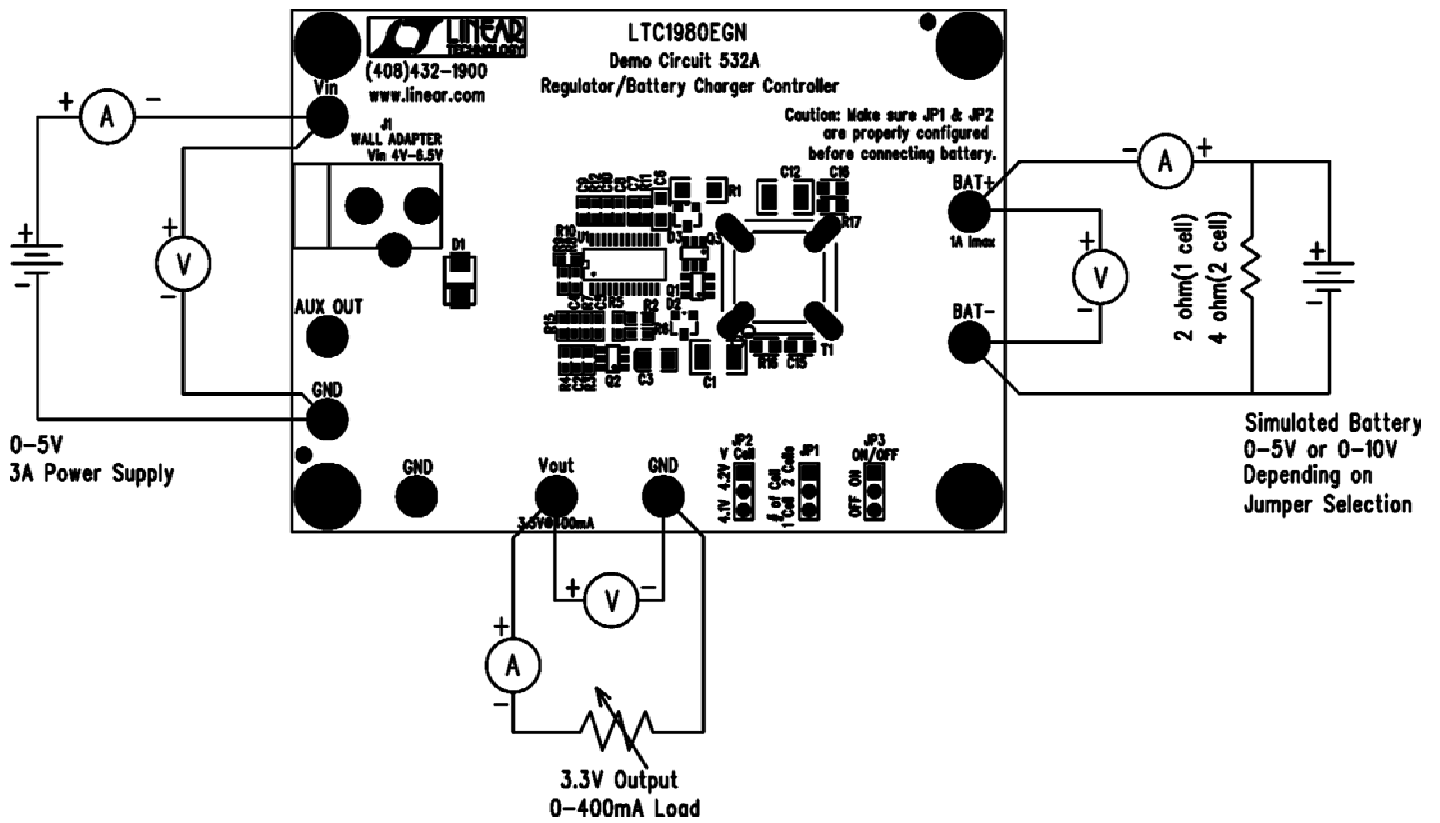

Figure 2. Proper Measurement Equipment Setup
Demonstration circuit DC532 is easy to set up to evaluate the performance of the LTC1980. Refer to Figure 2 for proper measurement equipment setup and follow the procedure below:
1. Connect input power supply, meters and output load as shown in figure 2.